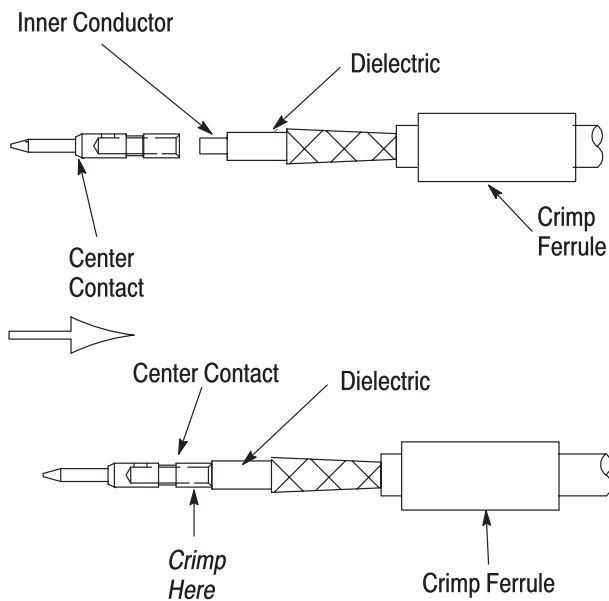

Figure 4
3. Push the center contact over the center conductor and crimp using the tooling listed in Figure 2. See Figure 4.